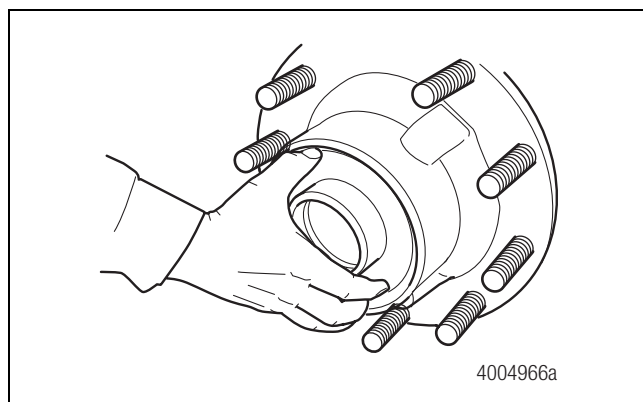

Figure 3.31
6. Install the inner washer, if provided. Figure 3.31.